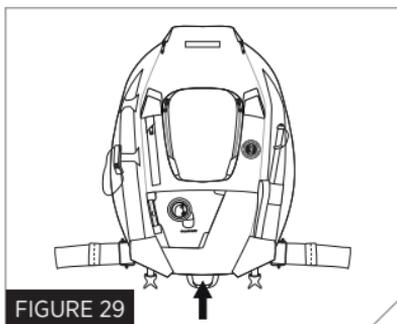

FIGURE 29
5. Fold in the bottom pleat (or gusset), making sure to align Velcro™ strips and close (Fig. 29).